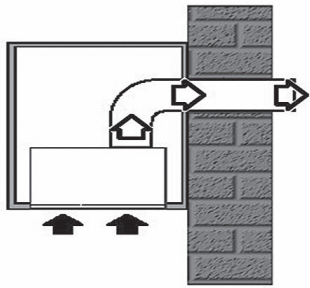

Fig. 5
7. For the airing mode, mount the backflow valve on the output hole, and connect the output hole of the fan to the hole in the wall using flexible pipe (Fig. 5).